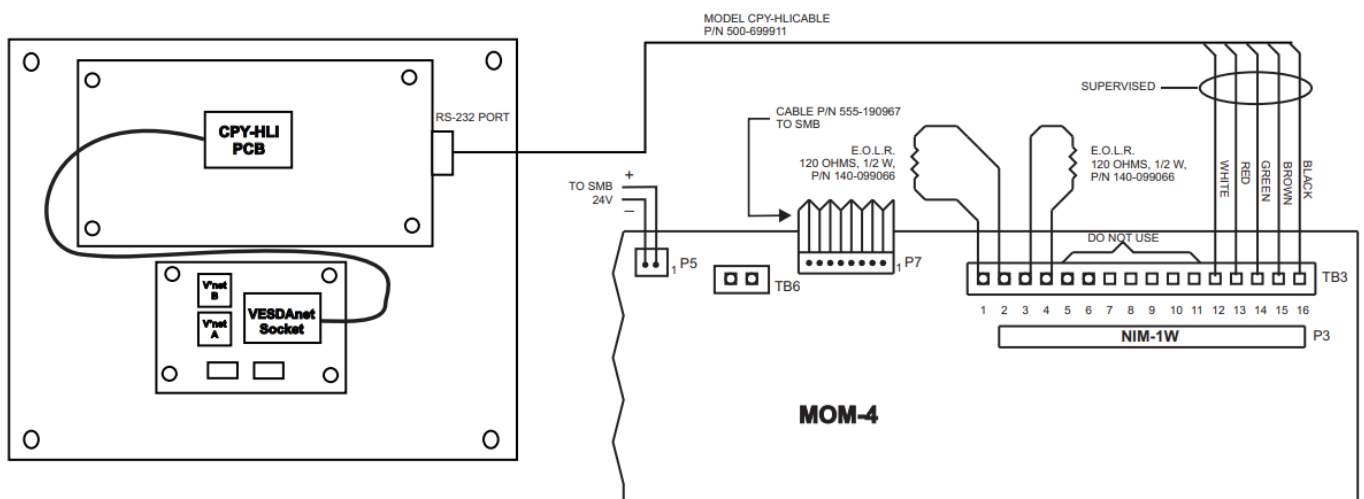

Figure 8
The VESDA Air Sampling interface connects to the MOM-4/2, TB3 or TB4, terminals 12-16, depending on where the NIM-1W is installed (Refer to Figure 8). Up to 31 Air Sampling detectors can be connected to a single NIM-1W.
Complete wiring of the Intelligent Interface as shown in Figure 8.
- Place the end-of-line resistors in the locations specified in Figure 8.
- Install the 5 leads of the Model CPY-HLICABLE interface cable (P/N 500-699911) to the MOM-4/2 according to the CPY-HLI Installation Instructions, P/N 315-099200. (Refer to Figure 8.)